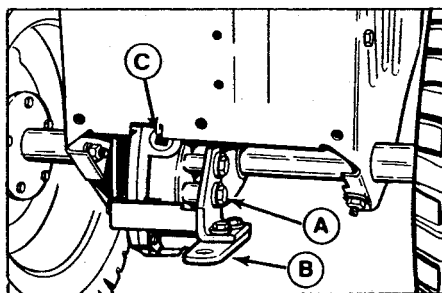

Figure 14. Transmission Oil Level Check (Drawbar Removed)
- a. Remove the transmission oil level check capscrew (A, figure 14).
- b. Oil should be level with bottom of hole. If not, remove the fill plug (C) and add Allis-Chalmers Power Fluid 821. When level with check hole replace and retighten capscrew and fill plug. (Apply sealant to capscrew thread before reinstalling).